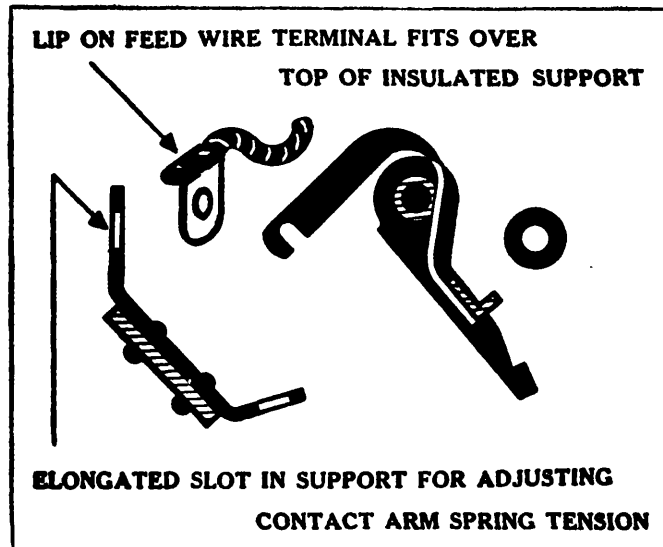

Fig. 17
10. Replace breaker arm and spring; tighten breaker arm spring attaching screw. If this screw was completely removed when the distributor was disassembled refer to Fig. 4 for order in which the parts should be assembled. Fig. 17 shows how the terminal on the flexible wire should fit over the insulated support.